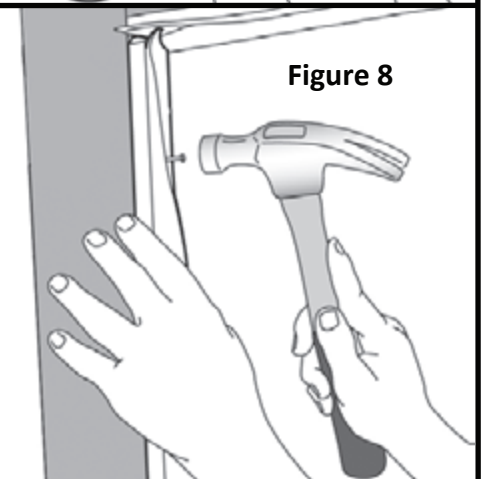

Figure 8
Step 10: Holding the seal in place (the edge with the flap should be flush with the inside of the jamb) (Fig 8), hammer the fasteners partially into the jamb. This will allow for slight adjustments later.